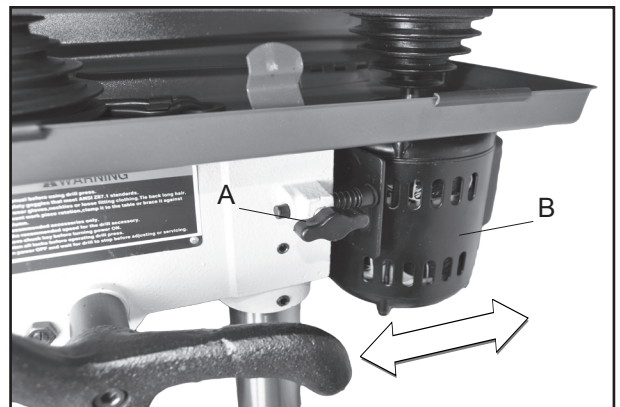

Fig.10
10. Loosen the motor lock knob (A-Fig.10). Move the motor (B-Fig.10) manually toward the feed handle to take tension off of the belt.